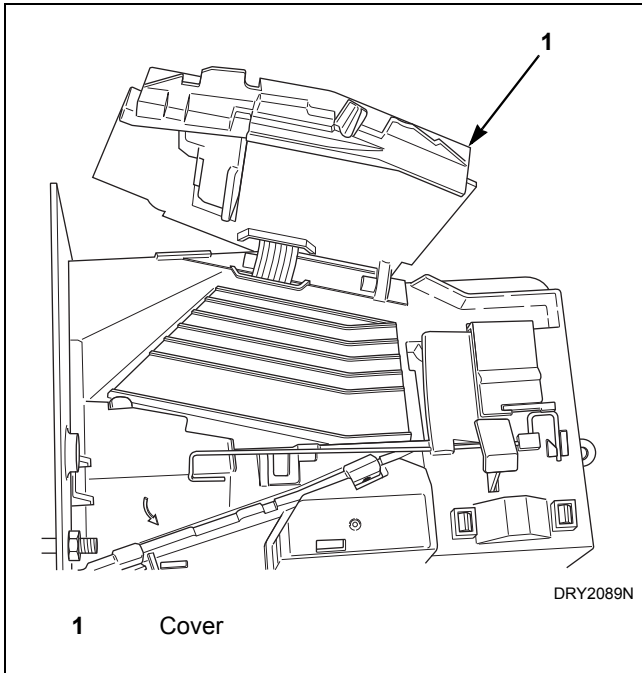

Figure 3
b. Open cover for coin drop. Refer to *Figure 3*.